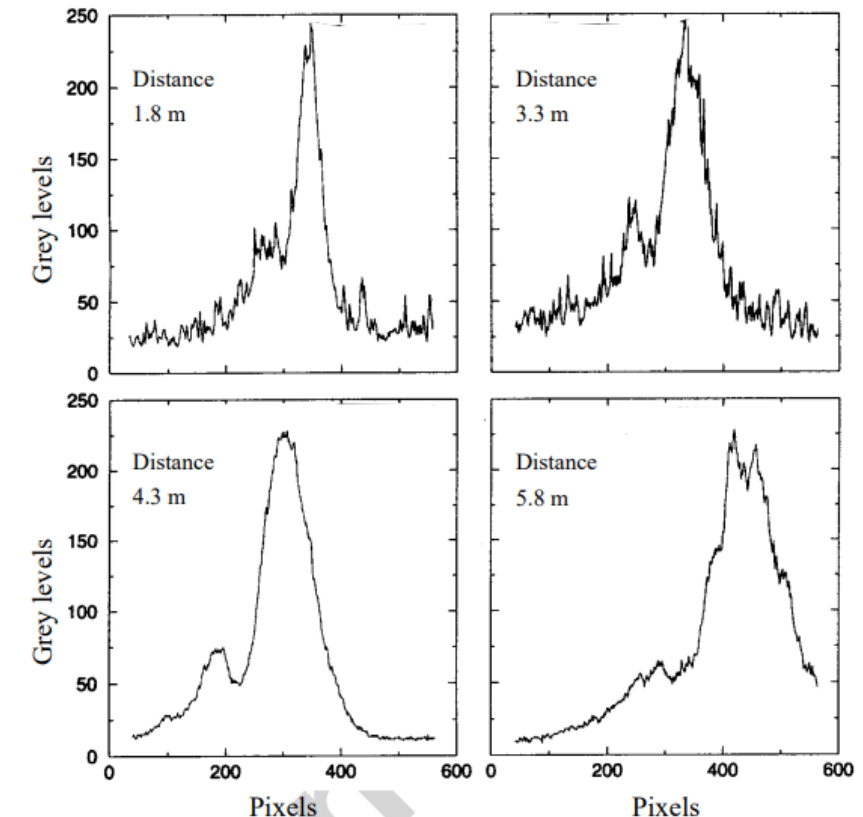

Fig. 2.20. Evolution of the light sheet profile with increasing distance from the laser.
- Fig 2.20 shows the intensity profiles of a light sheet measured at four distances from the laser: 1.8 m, 3.3 m, 4.3 m, and 5.8 m.